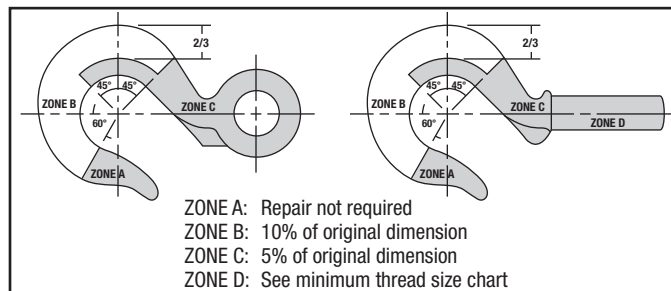

Figure 1
- Never use a hook that is worn beyond the limits shown in Figure 1.
- Remove from service any hook with a crack, nick, or gouge. Hooks with a crack, nick, or gouge shall be repaired by grinding lengthwise, following the contour of the hook, provided that the reduced dimension is within the limits shown in Figure 1.